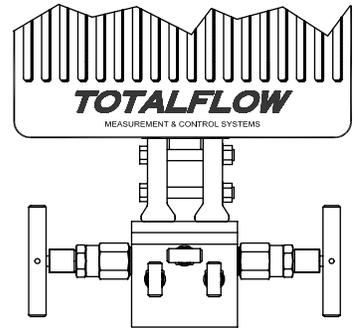

Figure 3 (Typical Manifold Mount)
5. Mount manifold to bottom of unit; Right port of unit is NORMALLY high pressure (upstream side). Check the AMU model number to see if it is designed for flow from left to right (4CYC) or right to left (4AYC). You can also look on the transducer for (H or +) for high side and (L or -) for low side. For direct mount manifolds, the direction is very important. (See Figure 3 for a typical manifold configuration)